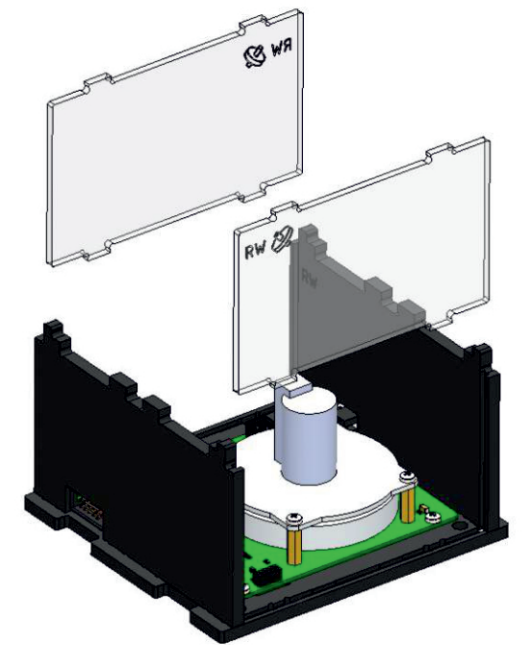

Fig. 52: Mounting two transparent panels
3) Secure two transparent panels to the bottom base plate. To do that, slide each panel along guide rails in walls until it touches the bottom base plate, then latch it (Fig. 52):